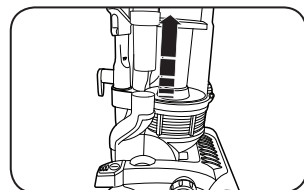

Fig. 2
2. Remove the hose suction end from the side hose outlet (Fig. 2).